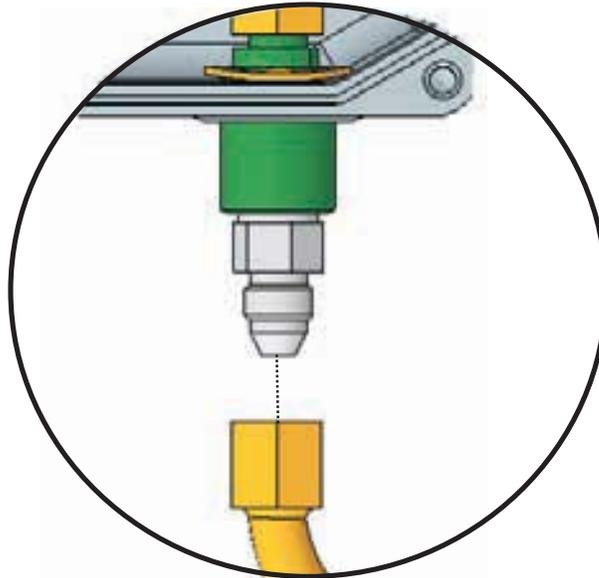

Figure 4-93. Fitting on Outside of UCH Control System
8. After ensuring there is no leakage, loosen the swivel fitting located at the bottom right side of the UCH Control System (see Figure 4-93). Allow the pressure to vent slowly. When the pressure is completely vented, disconnect the fitting and remove the cover.